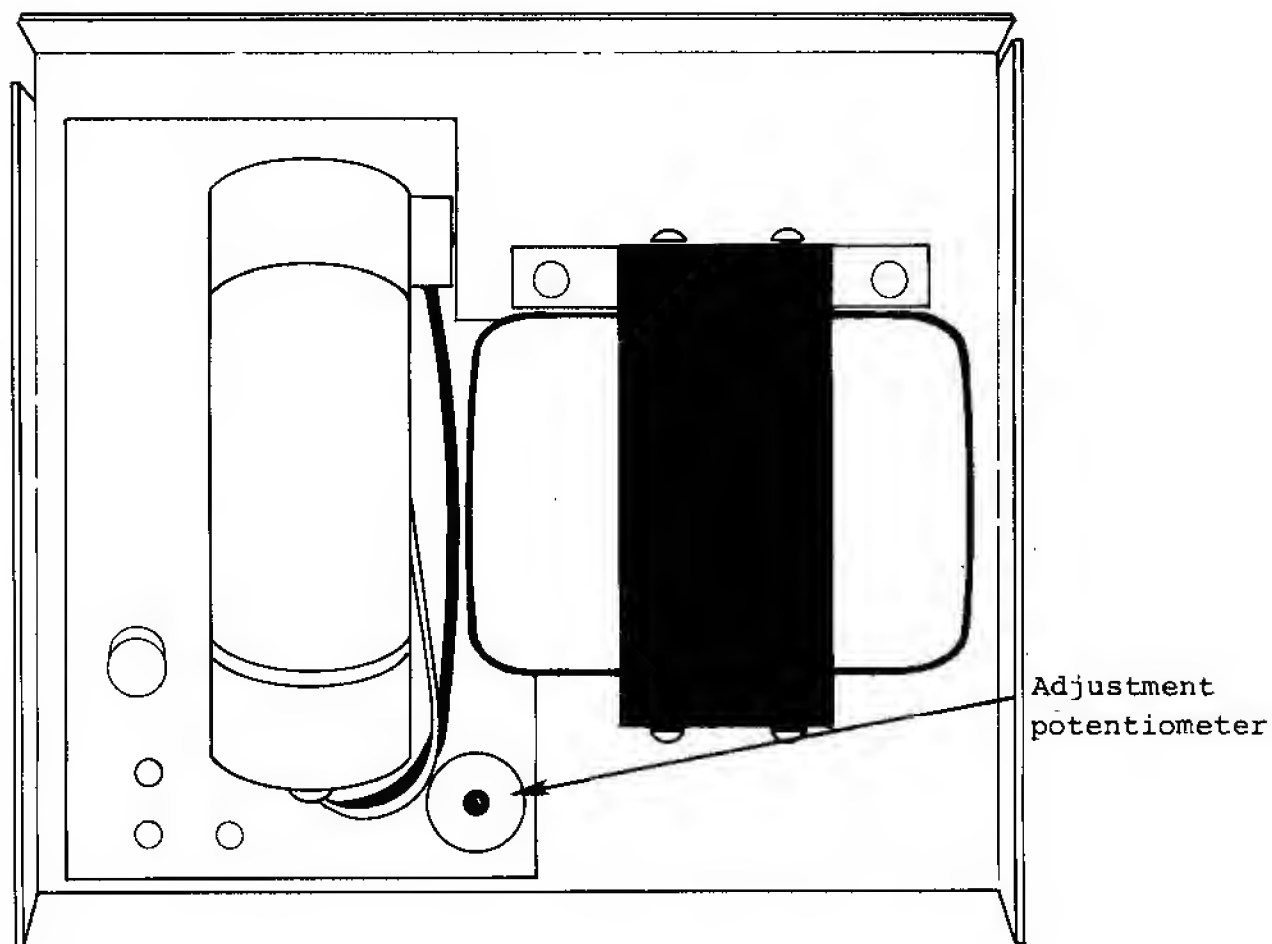

Figure 3. Power Supply Adjustment
2. Adjust the power supply potentiometer for  $+5.0 \pm .1$  VDC, Figure 3.